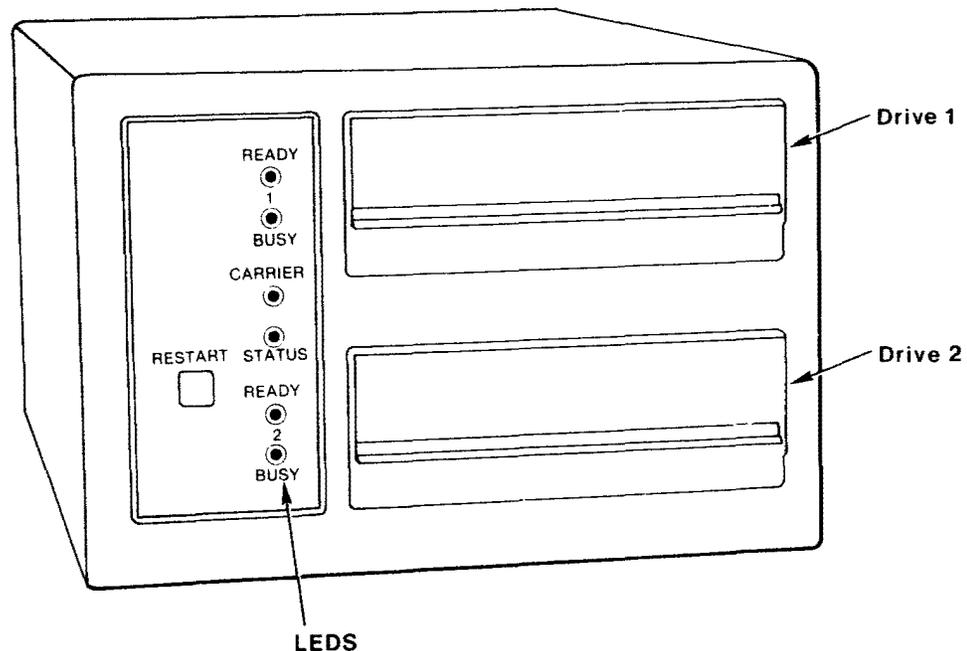

Fig. 3 — Front View of the Comm-Stor II Unit
*Drive 1* — refers to the top drive of a dual drive Comm-Stor II unit (Fig. 3).
*READY* — is an LED which indicates that a diskette has been properly inserted into the drive and that the drive door is closed. READY 1 is the LED associated with drive 1 while READY 2 is the LED associated with drive 2 (Fig. 3).
*BUSY* — is an LED which indicates that data is being transferred to or from the diskette. BUSY 1 is the LED associated with drive 1 while BUSY 2 is the LED associated with drive 2 (Fig. 3).